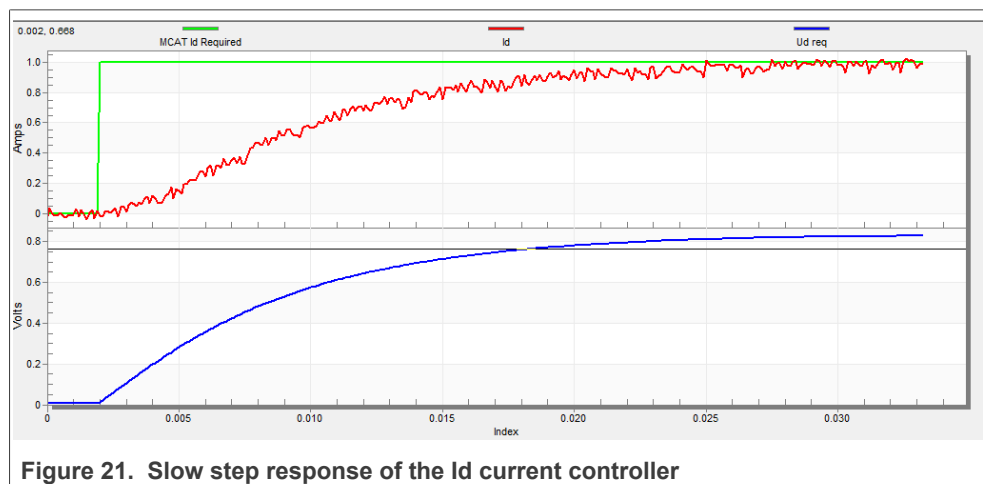

Figure 21. Slow step response of the Id current controller
- The loop bandwidth is low (110 Hz) and the settling time of the Id current is long (Figure 21).